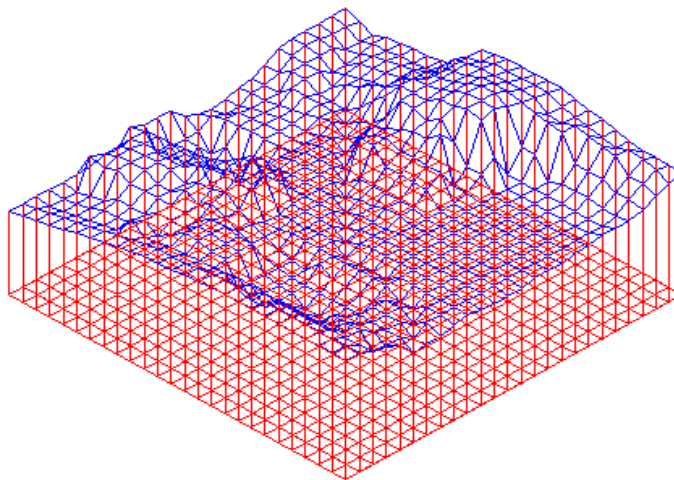

Figure Step 6
Step 6 On the layer: 3D Pline, draw 3D polylines between the top of each of the Z coordinate lines to construct a digital terrain model of the property as shown below. Try rotating the grid and lines to different positions to find the best view to insert the 3D polylines. (Figure Step 6)